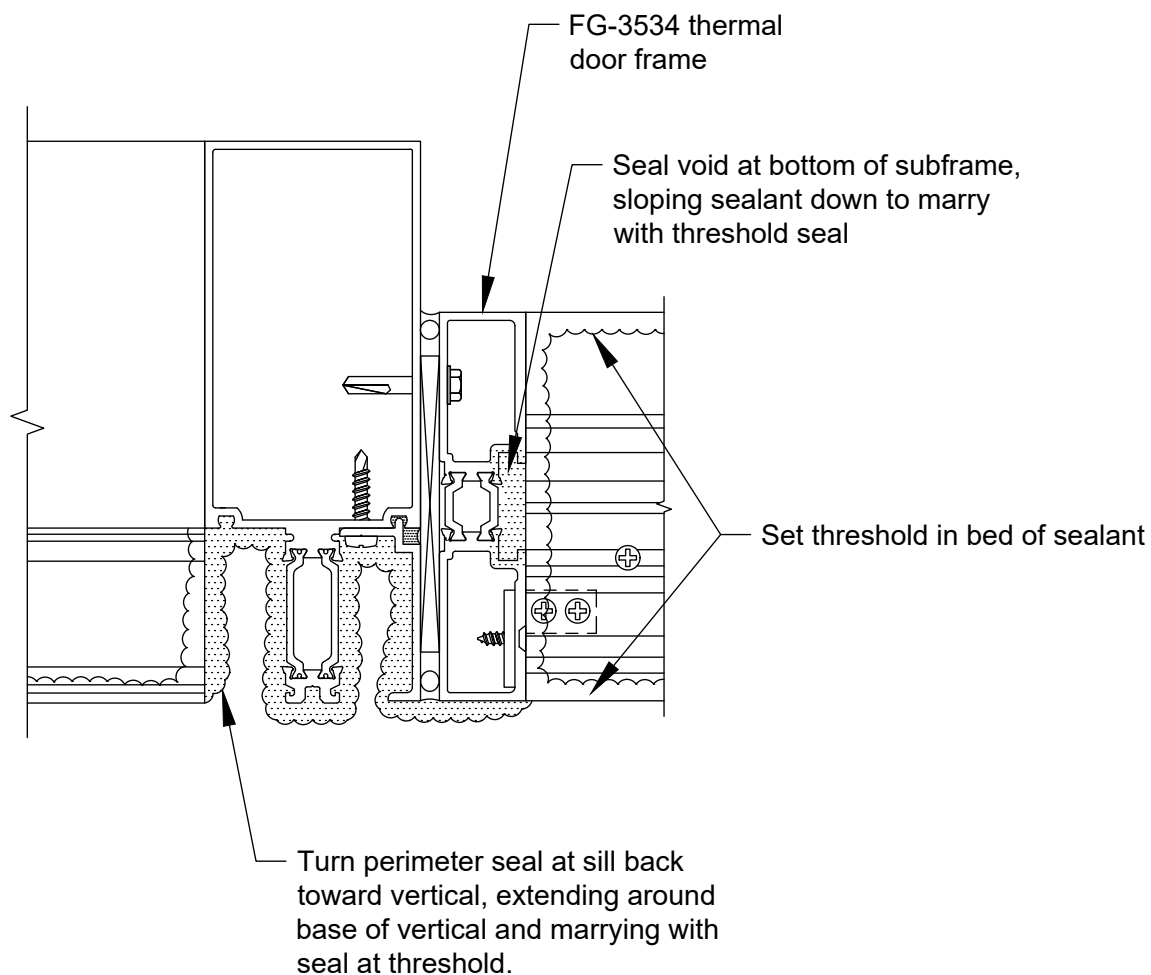

FIGURE 25
C.2.3 Bed subframes in sealant. Anchor to curtain wall framing members with FS-322 #12 x 1" HH STS at 18" O.C. Seal joint between jamb and header subframes. Seal tops of the jamb subframes. **SEE FIGURE 25.**
C.2.4 Bed threshold in sealant, attaching to threshold clips with screws provided. Marry threshold seal with subframe and main system seal. **SEE FIGURE 25.**